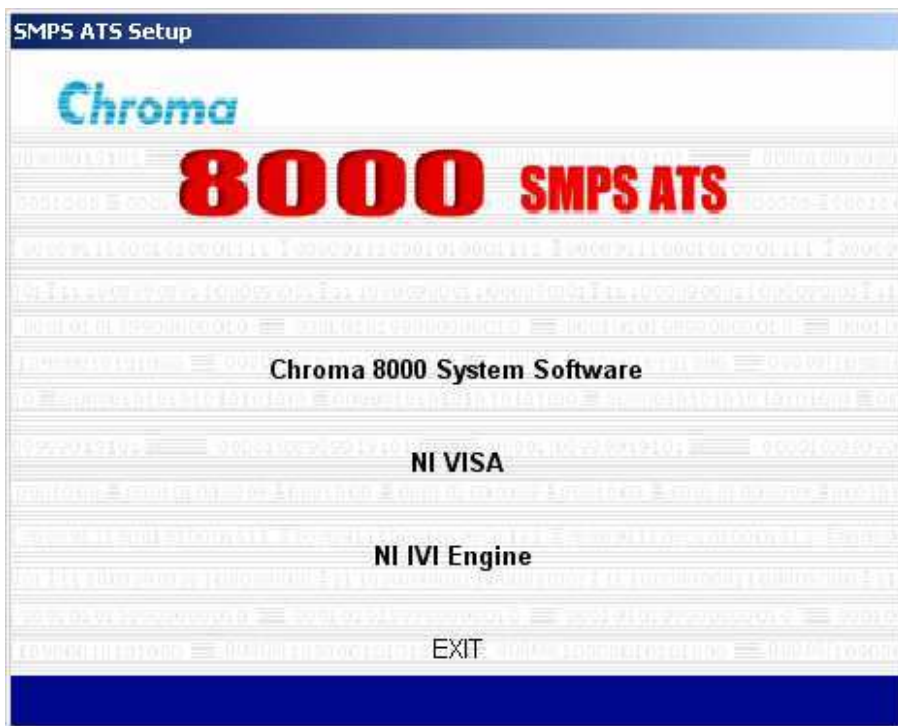

Figure 2-4 Chroma 8000 System Software Installation Main Screen
- c. When installing the screen will appear as Figure 2-4, you can decide if you need to install the NI VISA or NI IVI Engine software depending on whether they have been installed. It is suggested to install them following the sequence of NI-VISA, and then NI-IVI Engine. Chroma 8000 System Software is to be installed at last.
- d. Click **Chroma 8000 System Software** as shown in Figure 2-4 to install Chroma 8000 SMPS ATS software, the screen will appear as Figure 2-5.